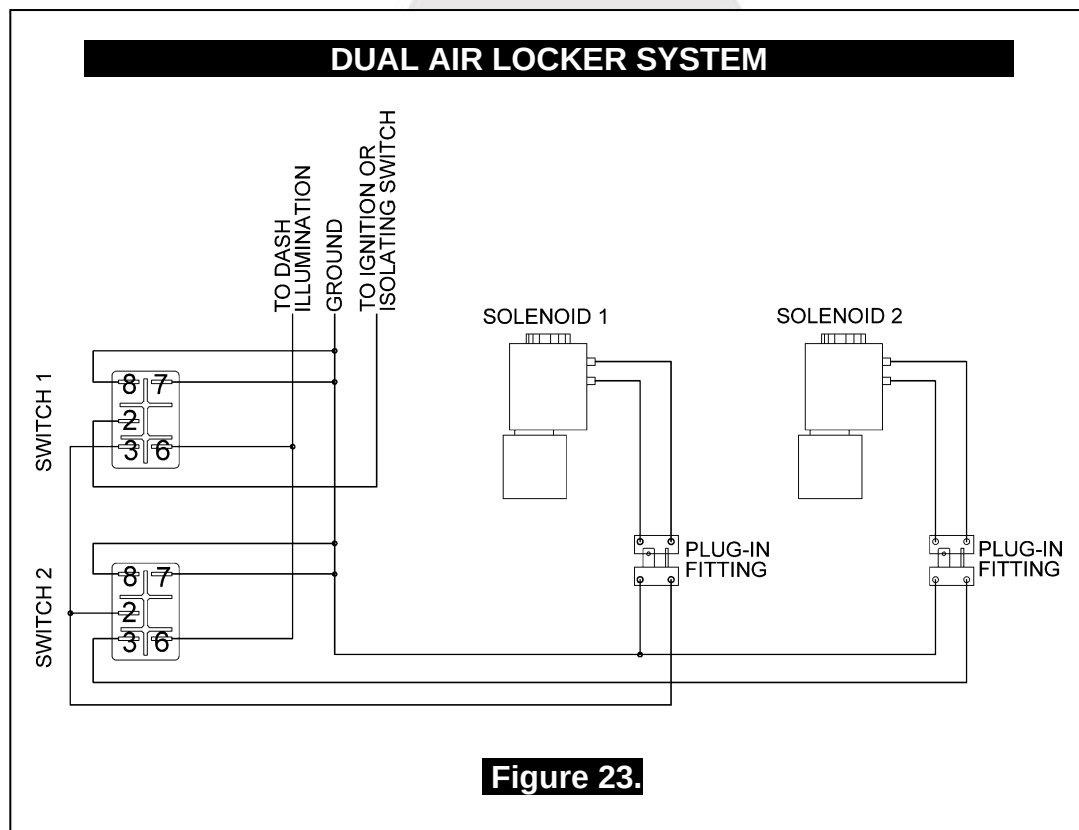

Figure 23.
- ☐ If two *Air Lockers* are to be installed in the system, ARB recommends that the switches and solenoids be wired according to figure 23. For safety reasons, this configuration allows SOLENOID 2 to be actuated only if SOLENOID 1 is already on.